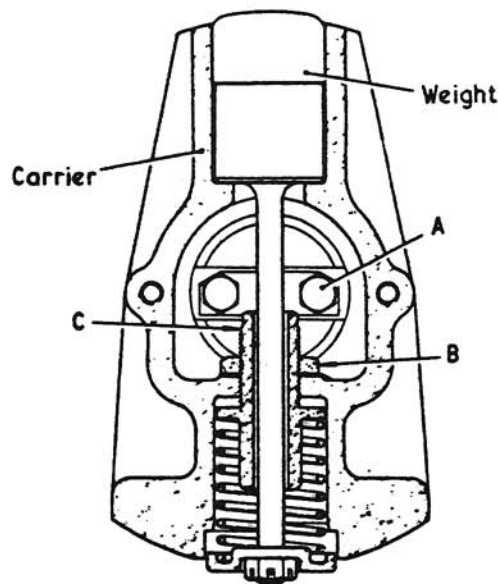

FIG22 OVERSPEED UNIT
- (8) Remove cover of overspeed unit.
- (9) Release lock nut 'B'. Fig. 22.
- (10) Screw adjuster C clockwise to raise tripping speed.